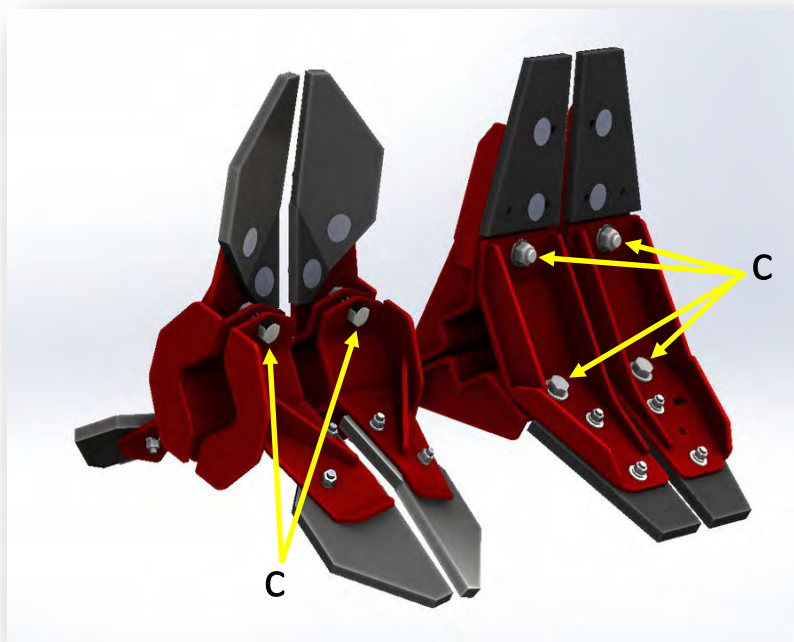

Figure 7-18: Standard Paddle and Hybrid Paddle Adjustment
1. Loosen lock nuts (C), shown in Figure 7-18, on the paddle mounts.
3. Tighten lock nuts (C).